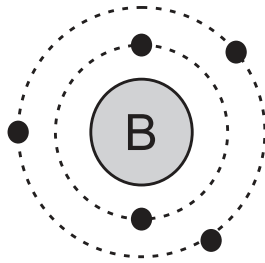

Fig. 14.12: Schematic electronic structure of boron.
b) p-type semiconductor: When silicon or germanium crystal is doped with a trivalent impurity such as boron, aluminium or indium, we get a p-type semiconductor. Figure 14.12 shows the schematic electronic structure of boron.